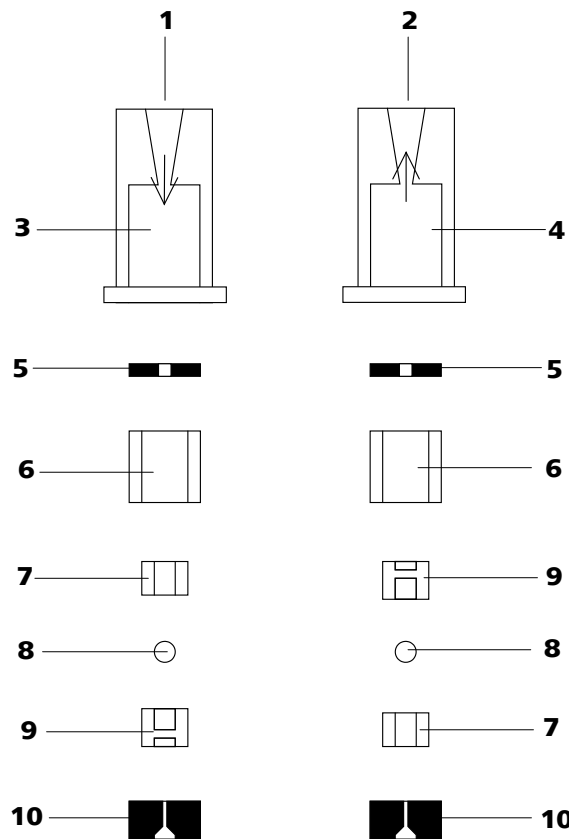

Figure 47 Components of the inlet valve and outlet valve
- The inlet valve and the outlet valve consist of the same, just differently arranged components (see Figure 47, page 91).
Reassemble valve components *according to figure 47, page 91*.
- Lay the other valve components above another in the correct sequence (*see Figure 47, page 91*).
If this is not the case, the valve has to be dismantled again and be assembled correctly (see *Figure 47, page 91*).